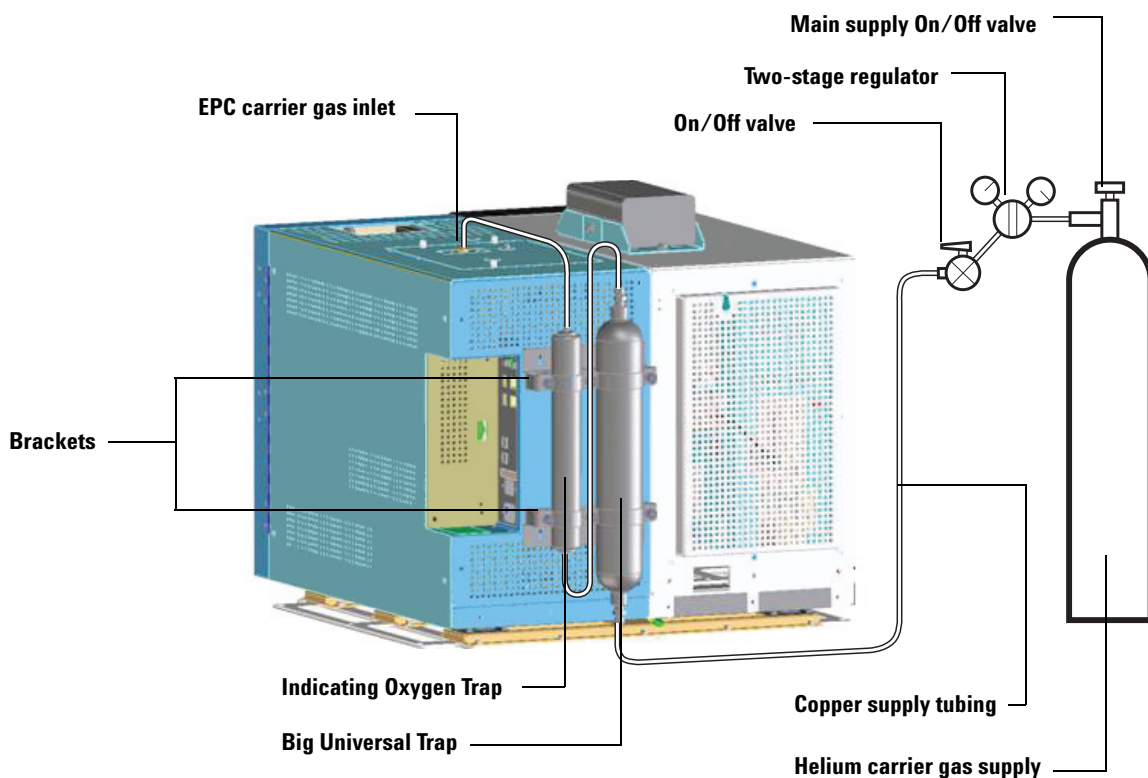

Figure 3 Connect helium
- 5 Use the remaining 1/8-inch copper tubing in the ship kit and connect it to the carrier gas supply line on/off valve (Figure 3). The other end of this line will be connected to the inlet of the Big Universal Trap after the line is purged. Leave the excess tubing coiled in this section to allow for long runs in a field laboratory.